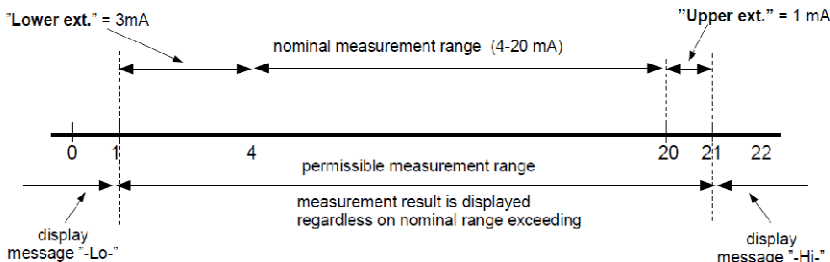

Fig. 7.14. Defining permissible measurement range for an example of settings of **“Upper ext.”** and **“Lower ext.”** parameters (for nominal measurement range 4-20 mA)
- parameter defining the allowable range of input currents (Fig. 7.14). If the input current lies within the defined range then the appropriate measurement result shall be displayed despite exceeding the nominal measurement value 0-20 mA or 4-20 mA. If the input current exceeds the range defined by **“Upper extension”**, **“Lower extension”**, a **“-Hi-”** or **“-Lo-”** message (depending on the direction of exceeding the range) shall be displayed instead of the measurement result in numeric form. The **“Upper extension”** and **“Lower extension”** values are defined in mA with the accuracy of 0.01 mA. The **“Lower extension”** value is defined in relation to a 4 mA current, in the range of 0-3.99 mA (this parameter is significant only in the “4-20 mA” mode). The **“Upper extension”** value is defined in relation to a 20 mA current in the range of 0-1.99 mA.